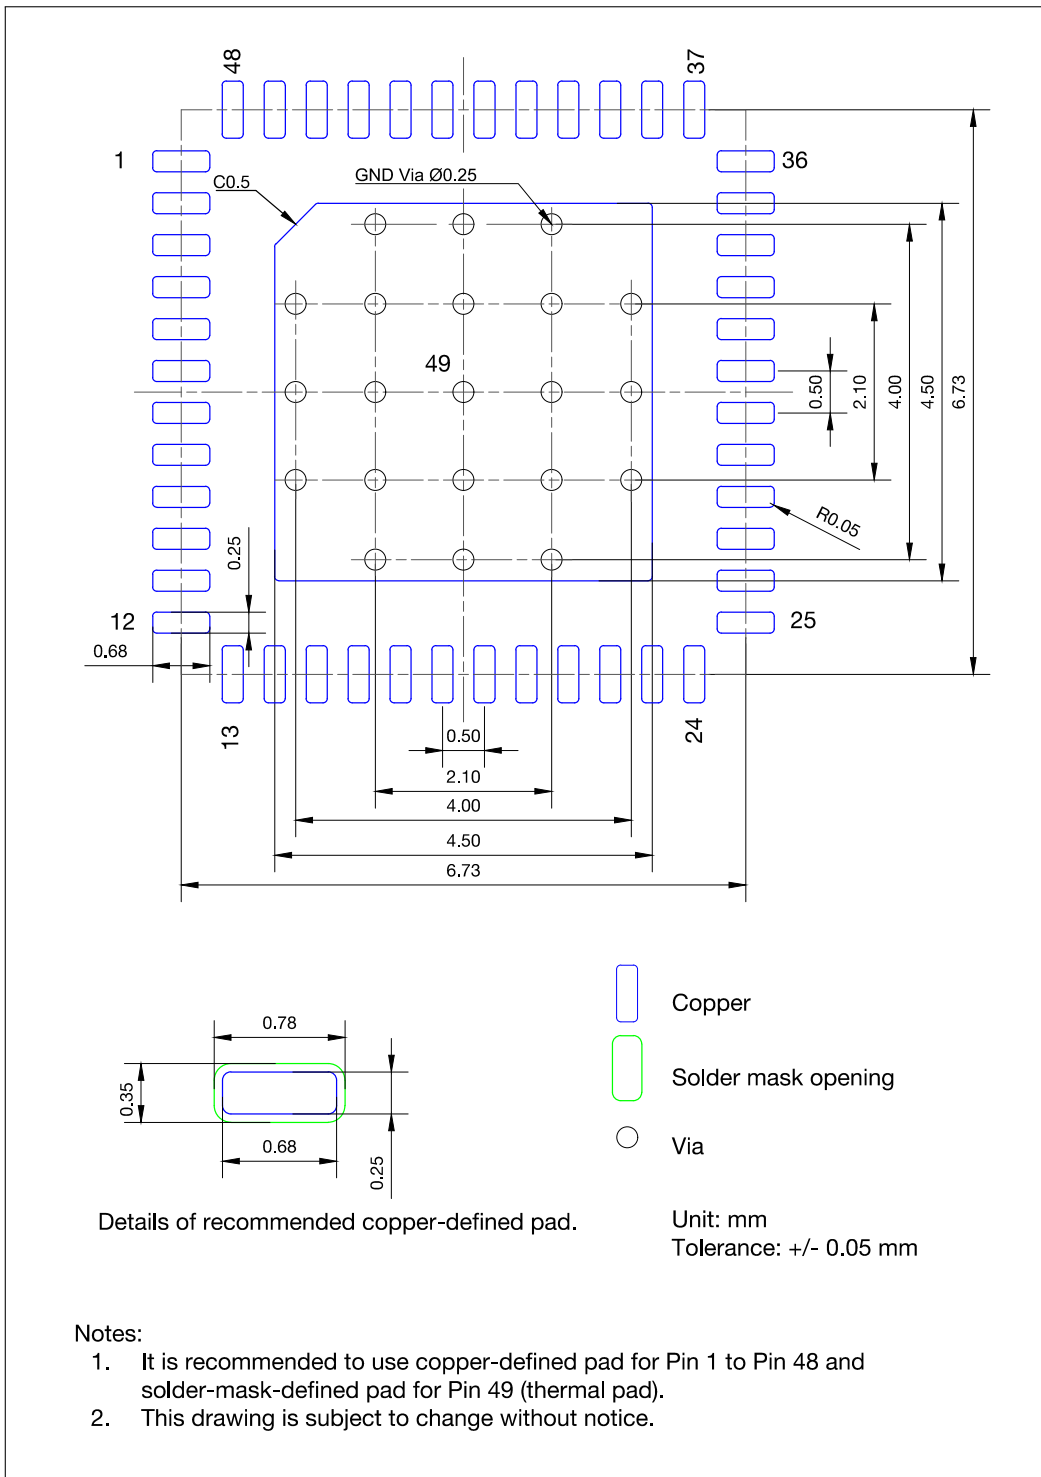

Figure 16: ESP32-PICO PCB Land Pattern
- Figures for recommended PCB land patterns with all the dimensions needed for PCB design. See Figure 16 ESP32-PICO PCB Land Pattern.
- Source files of recommended PCB land patterns to measure dimensions not covered in Figure 16. You can view the source files for ESP32-PICO-D4, ESP32-PICO-V3, and ESP2-PICO-V3-02 with Autodesk Viewer.